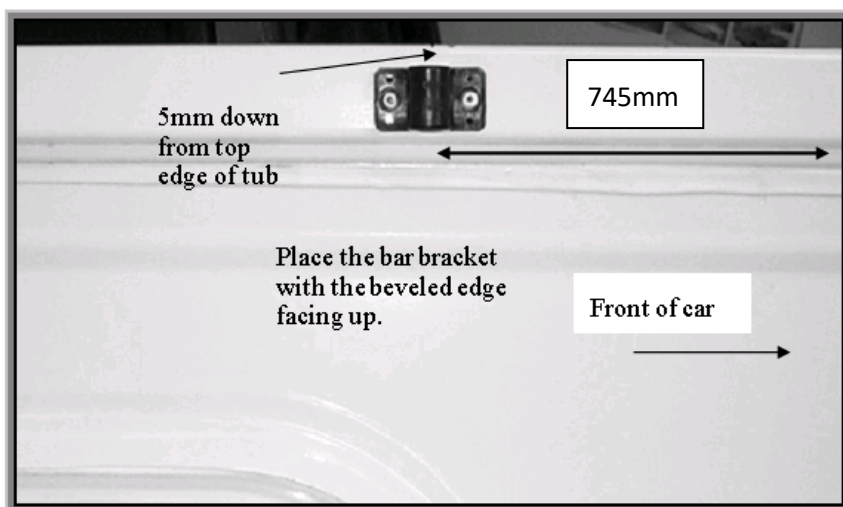

Figure 2: Placement of bar bracket
3. Ensuring the rounded section (1) of the rope track faces away the cabin, sit the rope track against the front (cabin end) inside vertical surface of the tub (2) & centralize the rope track.
7. To fit the bar brackets, measure 743mm back from the inside front edge at the top of the tub and place them as shown in Figure 2. (5mm down from top edge of tub) Drill and rivet using two large rivets for each Bar Bracket. Install the support bar according to the supplied instructions.